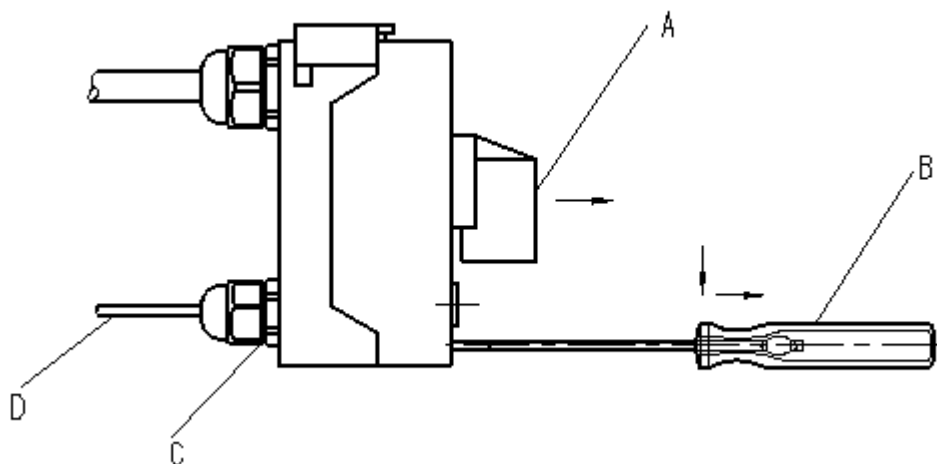

Fig. 4
- Switch the control off electrically by the main switch S0 (Fig. 4) and pull the power plug.
- Unscrew push button (A) and withdraw it (Fig. 4).
- Open the power switch with a screwdriver (B) (Fig. 4).
- Mount separate cable connection (C) to the back of the power switch (Fig. 4).
- Pull the connection cable (D) of the sewing machine lamp through the separate cable bushing and fasten with cable binders (Fig. 4).